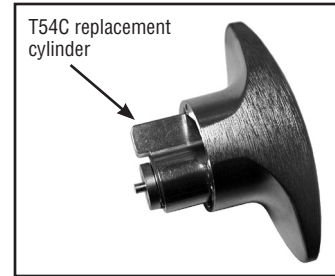

Figure 5
5. Insert the new T54C cylinder. (Fig. 5)